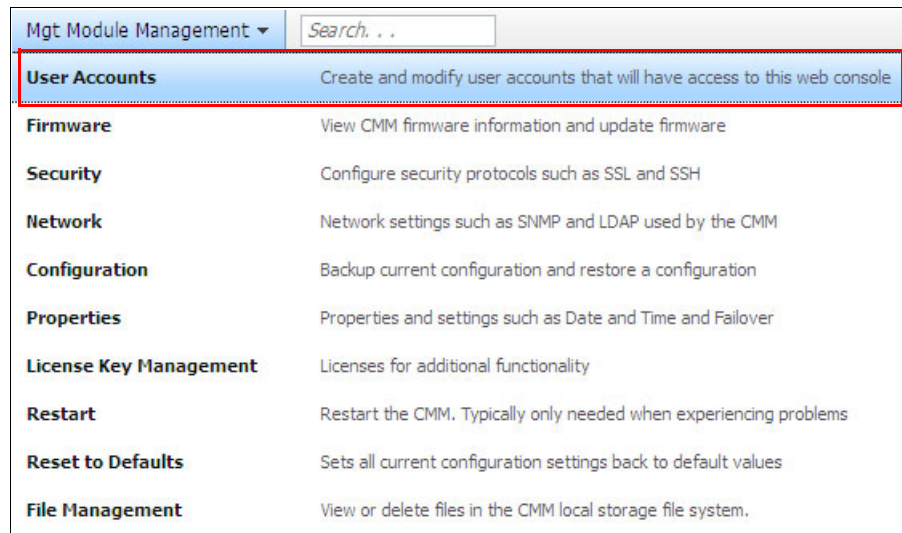

Figure 4-31 Mgt Module Management: User Accounts
1. Select **User Accounts** from the Mgt Module Management menu, as shown in Figure 4-31.